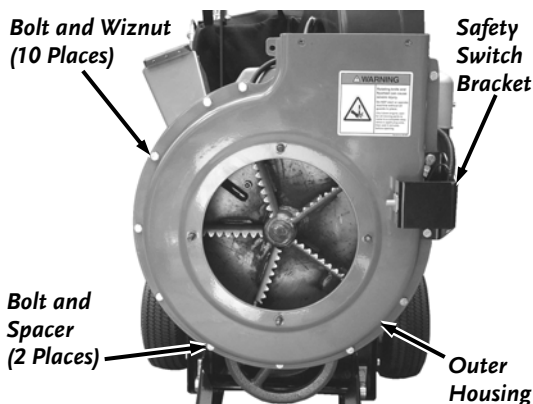

Figure 25
3. Remove the two Bolts and Spacers from the bottom of the Housing (**Figure 25**).